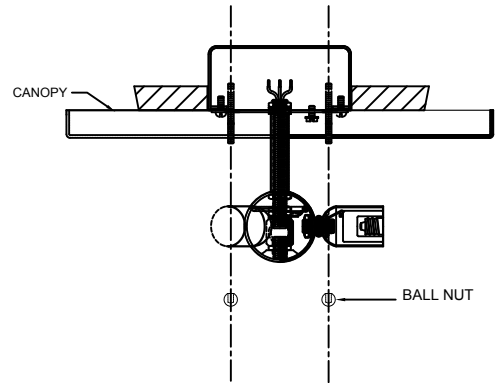

FIGURE-02
5. Pull up & attach the canopy to the mounting ring and secure it with ball nuts through the studs. (See Figure-02)